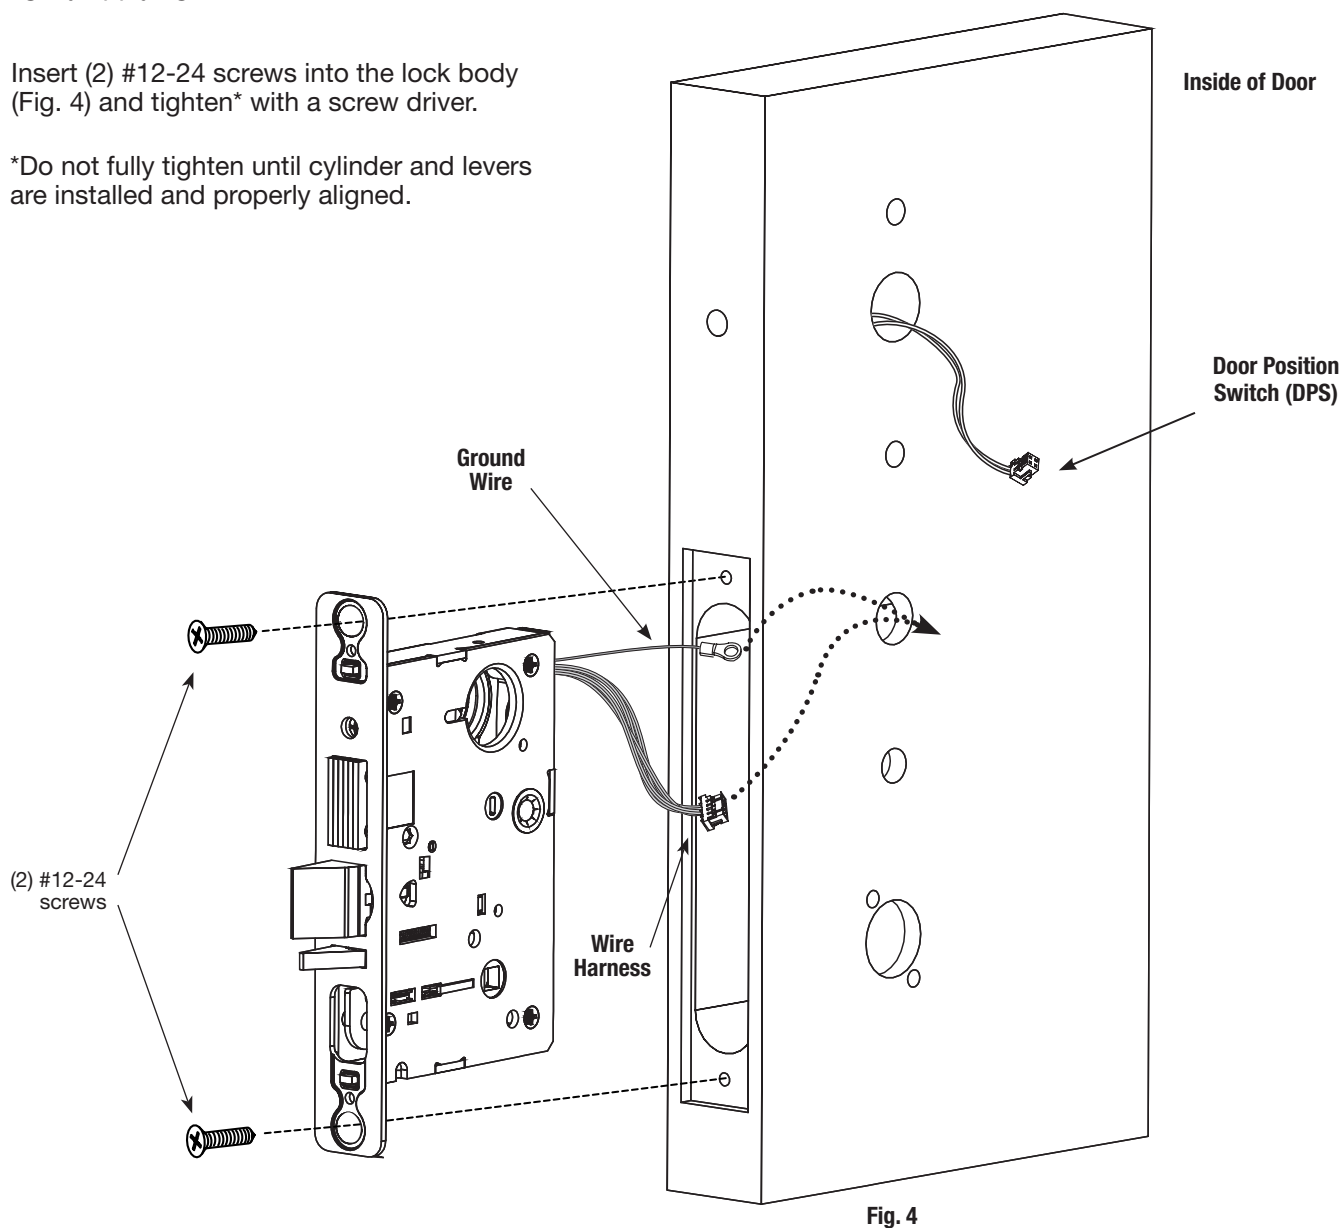

Fig. 4
1. Feed the wire harness into the mortise pocket and through inside preparation hole as depicted in Figure 4.
3. Insert (2) #12-24 screws into the lock body (Fig. 4) and tighten* with a screw driver.